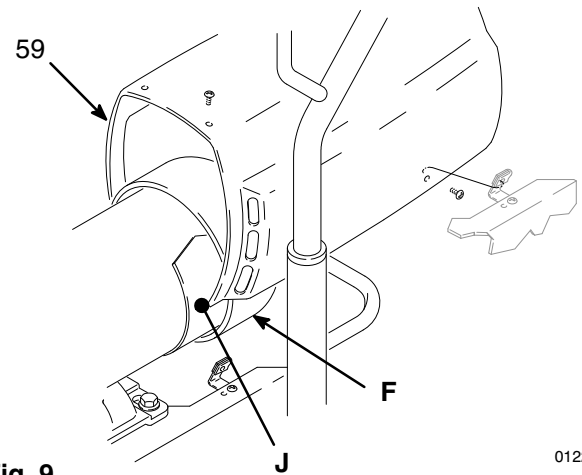

Fig. 9
Remove the motor shield (59), the fan cover (F) and the inspection covers (J). See Fig. 9.